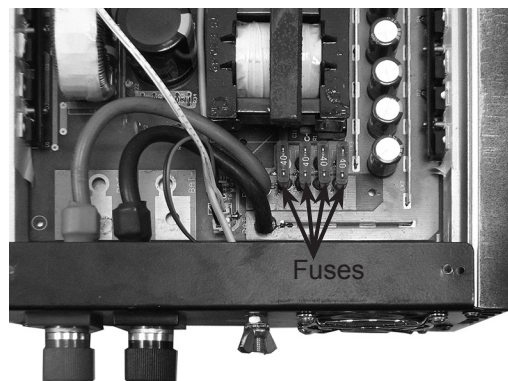

Figure 2
3. If the fuses need replacement, disconnect the inverter, unthread the screws on the bottom panel of the Inverter and remove the bottom panel, being careful not to strain the wire attached to the fan. Remove the old fuses, and replace them with new 40 Amp fuses of the same type. Replace the bottom panel of the inverter before use - See Figure 2.